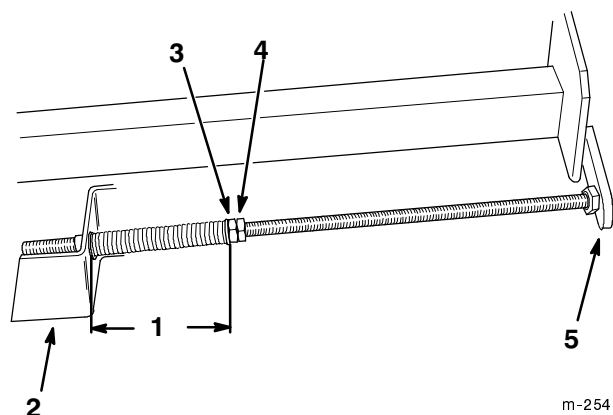

Figure 9
5. Insert the spring end of the adjusting shaft into the hole in the deck mounting bracket. Note that the small end of the bushing fits into the hole in the deck bracket. Insert the locknut end of the adjusting shaft into the carrier frame mounting tab (Fig. 9).
6. To tension the belt, tighten the front jam nut on each adjusting shaft until the springs are compressed to 12.7 cm (5"). Measure the spring compression between the spacer and the bushing (Fig. 9).
7. Tighten the rear jam nuts (Fig. 9).